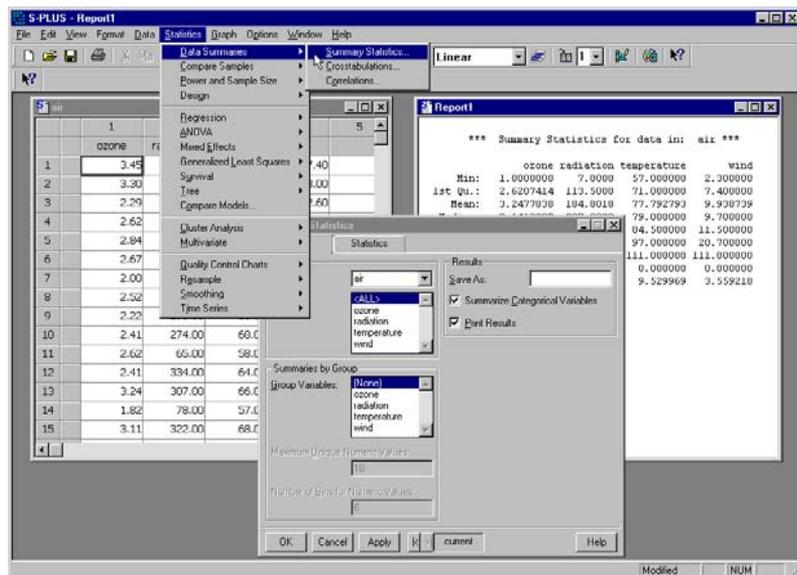

Figure 6.1: Statistics-related menus and windows.
Figure 6.1 displays many elements of the S-PLUS interface.
- **Statistics menu:** The **Statistics** menu gives you access to most of the statistical procedures available in S-PLUS. The procedures are logically grouped, with submenus that allow you to precisely specify the procedure you want to use. For example, in Figure 6.1 the menu tree for summary statistics is shown. It is selected by choosing **Statistics ► Data Summaries ► Summary Statistics**.
- **Statistics dialogs:** The open dialog shown in Figure 6.1 entitled **Summary Statistics**, and is used to specify which data summaries to calculate.
- **Data Window:** The open window on the left in Figure 6.1 is a **Data** window, which you can use to create or edit a data set. See Chapter 2, *Working With Data*, for a detailed introduction to the **Data** window.
- **Report Window:** The **Report** window displays the results of a statistical analysis. In the example in Figure 6.1, a **Report** window shows the results of the summary statistics.